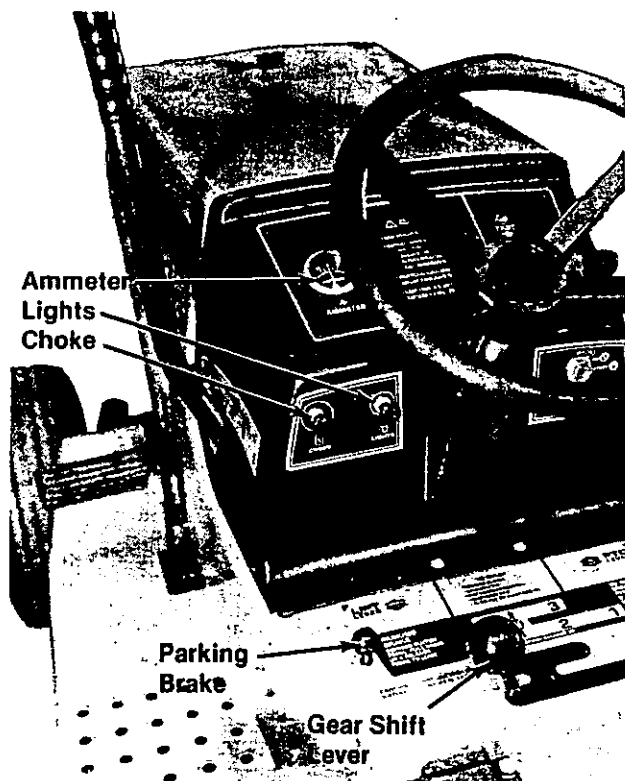

FIGURE 4.
Ammeter—The ammeter registers the rate of battery charge. The head lamps operate directly from the engine alternator and the use of the head lamps does not register on the ammeter. The maximum charging rate for the battery is 3 amperes with the engine operating at its maximum speed. (See figure 4.)
Choke—The choke control is located on the left side of the dashboard. When starting the engine, pull the choke knob out. After the engine warms up, push the choke knob in gradually until the engine runs smoothly with the choke knob all the way in. A warm engine requires less choking. See figure 4.
Lights—The headlamps are operated by pulling out the light switch knob located on the left side of the dashboard. The headlamps will only operate when the engine is running. See figure 4.
Parking Brake—To set the parking brake, depress the clutch pedal and pull up the parking brake knob. It will stay in the raised position. To release the parking brake, depress and release the clutch pedal. See figure 4.
Gear Shift Lever—The transaxle has four forward gears, neutral and reverse. You do not shift through the gears on the transaxle as you would in an automobile. Pre-select the gear appropriate for the job you are doing. See figure 4.
- D. Pull the choke knob out. See figure 4.
- H. With the clutch pedal still depressed (disengaged), put the gear shift lever in one of the four forward or reverse positions. See figure 4.